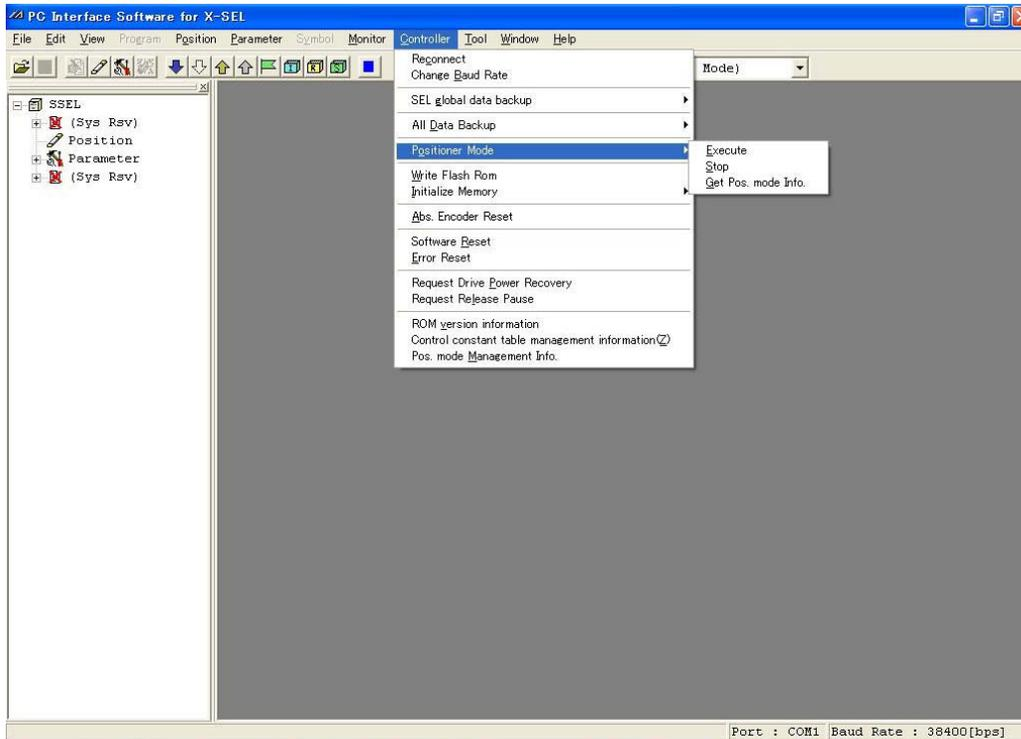

Fig. 14.6 Execue or Stop of Positioner Mode
Pressing the EMERGENCY STOP button or Stop in the screen of Fig. 14.6 will stop the positioner mode. Select Positioner Mode (O) from the Controller pop-up menu and then click Stop (S).